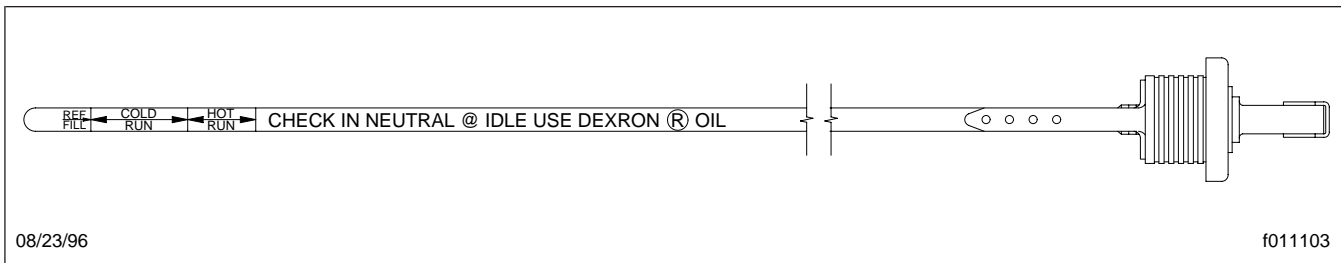

Fig. 5, Dipstick Markings
3. With the engine running, wipe the dipstick clean and check the fluid level. Any level within the COLD RUN (lower) band is satisfactory for operating the vehicle. See Fig. 5. If the level is not within the COLD RUN band, add or drain fluid until it reaches the middle of the COLD RUN band.
2. Park the vehicle. Shift to Neutral (N) and set the parking brake. Let the engine run at idle.
3. Wipe the dipstick clean and check the fluid level. A safe operating level is any level within the HOT RUN (upper) band on the dipstick. See Fig. 5.